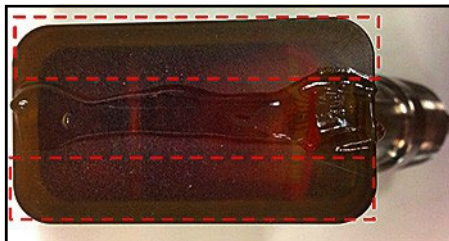

Figure 20: Transducer Face with Couplant
5. Apply the supplied couplant to both transducer faces (see Figure 20 below). The couplant displaces any air gaps between the transducer and the pipe to ensure a uniform acoustic signal path. For pipes up to 14" OD, do not apply couplant in the red areas shown; for pipes >14" OD, cover the entire surface with couplant.